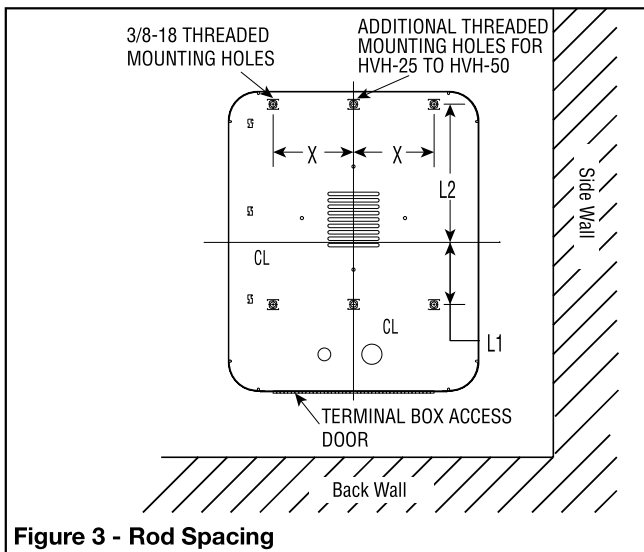

Figure 3 - Rod Spacing
- A. It is recommended that the heater only be used with ceiling heights of 12 feet or greater. Minimum spacing to ceiling is 6 inches, use 3/8-18" thread stock (supplied by others) as shown in Figure 3.
- A. The heater can be rod mounted to the ceiling by installing four (4) threaded mounting rods in the threaded holes located on the top of the heater as shown in Figure 3. (Refer to Table C for mounting rod thread size.)
5. The bottom access door is hinged. There are two screws that must be removed to gain access (Fig. 3).